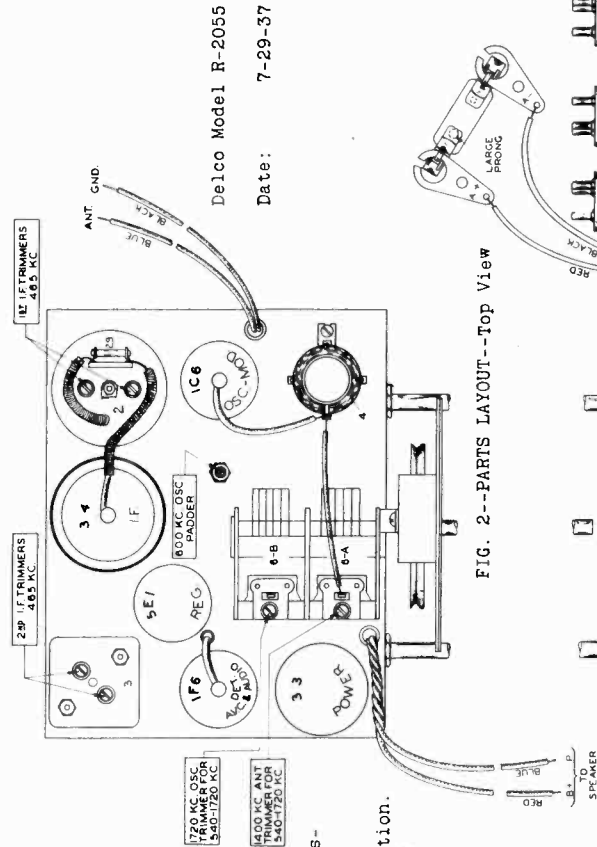

FIG. 2--PARTS LAYOUT--Top View
- (d) Peak each of the trimmers on the 2nd I-F coil, Illus. #3 on Fig. 2.
- (e) Peak each of the trimmers on the 1st I-F coil, Illus. #2 on Fig. 2.
- (d) Adjust the trimmer mounted on the "Osc." section of the gang condenser, Illus. #5B, Fig. 2, to bring in the 1720 kilocycle signal generator signal to maximum output.
- (f) Adjust trimmer on the "Ant." section of the gang condenser, Illus. #6A on Fig. 2, for maximum output.